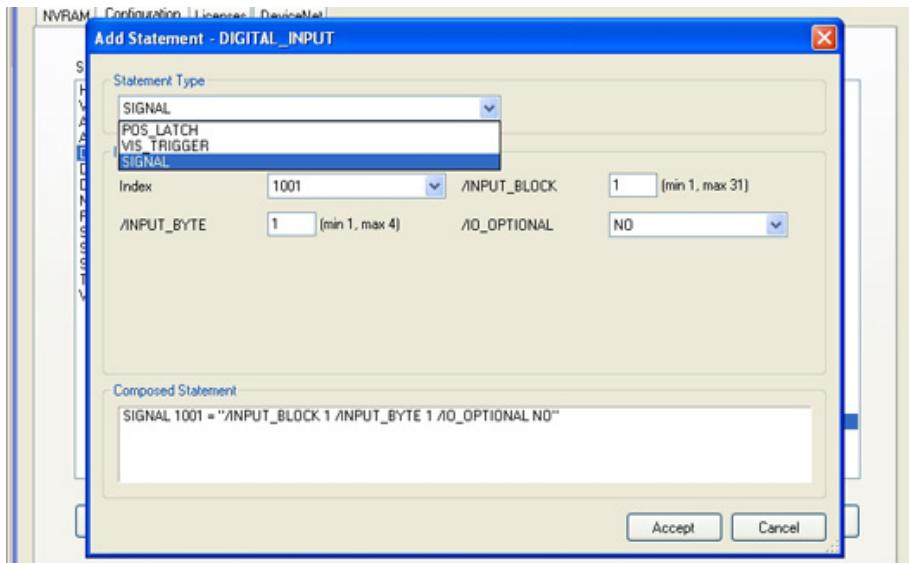

Figure A-6. Modifying a Digital Signal
5. Enter the values for the signal. See **Figure A-6**.